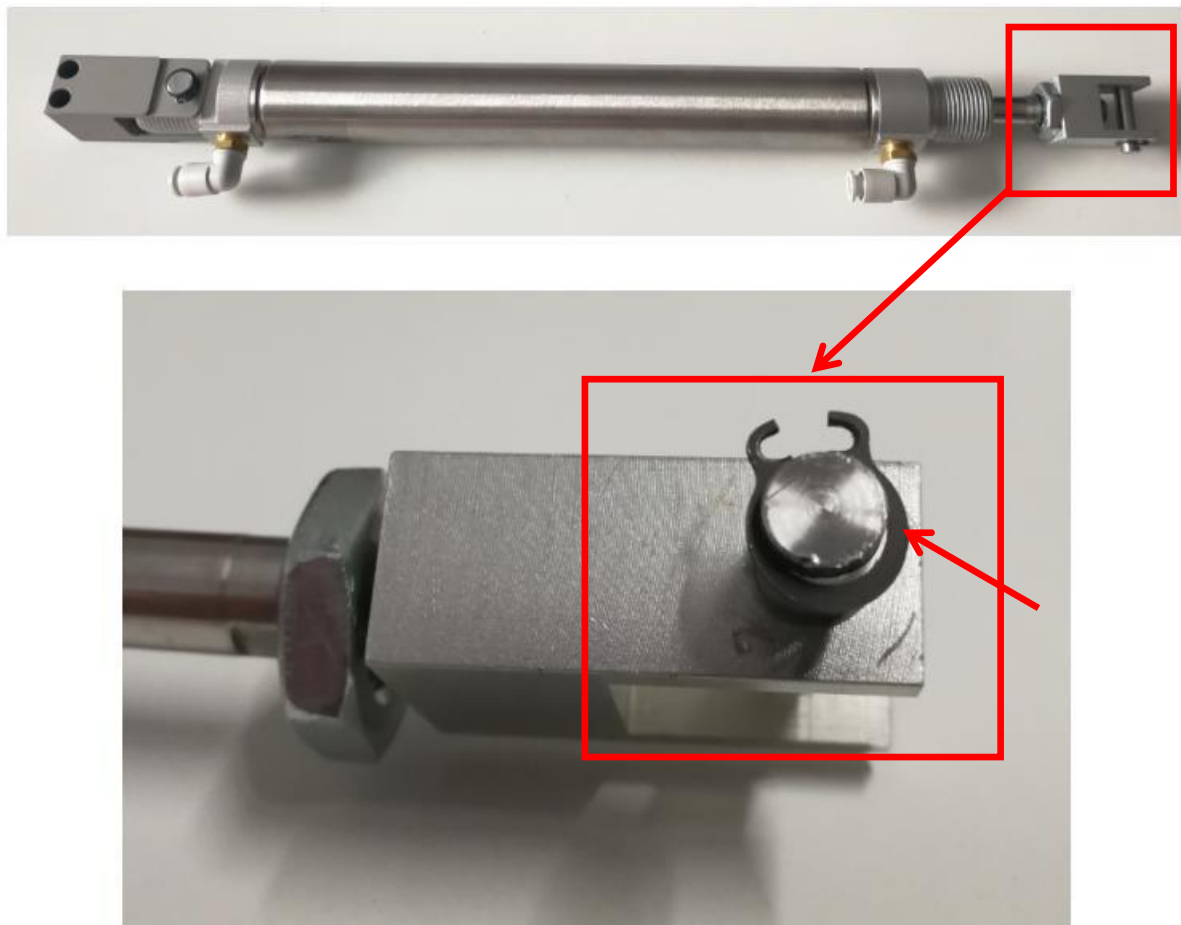

Figure 9
13. Gently remove another C-Clip at Front Extension Block as Figure 9